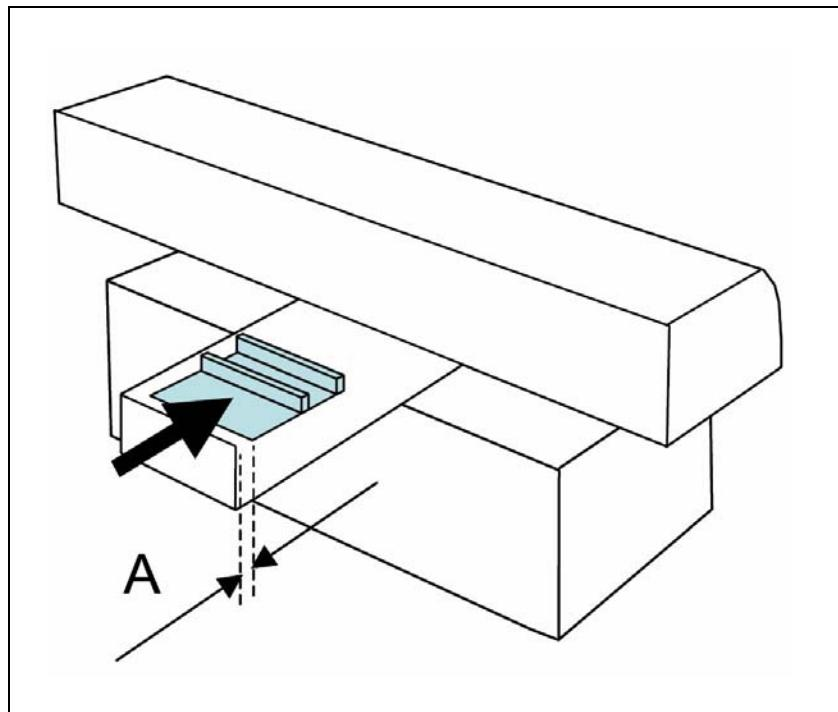

Figure 2-29. T conveyor moved forward distance A to its fetch-and-leave position.
2. Release the T conveyor. The magnets in the linear motor will pull the T conveyor forward somewhat. This is normal. Move it a bit further forward so that it is 34 mm, ± 1 mm from the mechanical stop. See ('A' in Figure 2-29) for details. This position is the preliminary fetch-and-leave position.